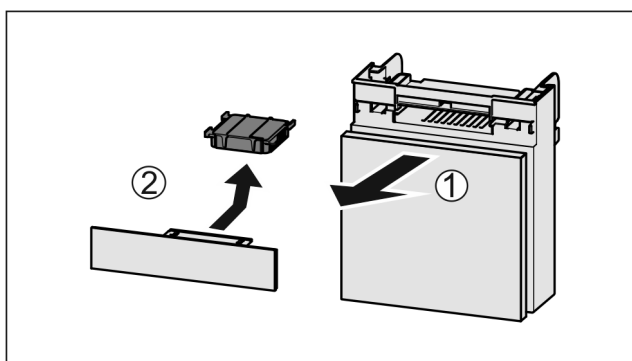

Fig. 173
- Pull out the compartment Fig. 173 (1).
- Remove the carbon filter Fig. 173 (2).